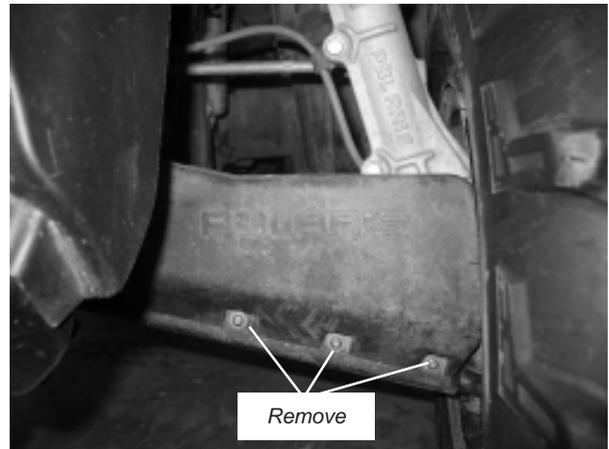

Figure 1
1. Remove factory front a-arm guards using T-20 torx bit. See Figure 1.